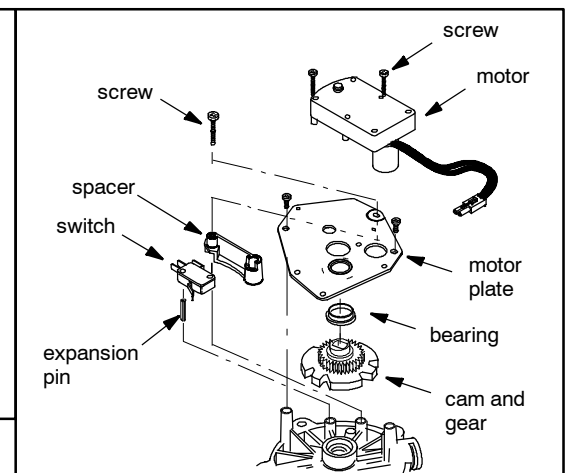

Figure 3
7. Remove the two screws on the motor and remove motor. **Figure 3.**
8. Remove the two small screws holding the motor plate onto the valve. Set aside. Remove the screw above the position switch, remove position switch and spacer. Set aside. Remove motor plate and bearing and set aside. **Figure 3.**
9. Insert new expansion pin into hole on top of valve. Slip new position switch onto expansion pin. **Figure 3.**
10. Position motor plate over the valve, making sure the bearing is in place before tightening screws. Slip the switch screw through the hole above the switch and insert screw through motor plate and spacer. Tighten screws. **Figure 3.**
11. Position new motor above motor plate. Push screws through holes on motor and tighten to the motor plate. **Figure 3.**